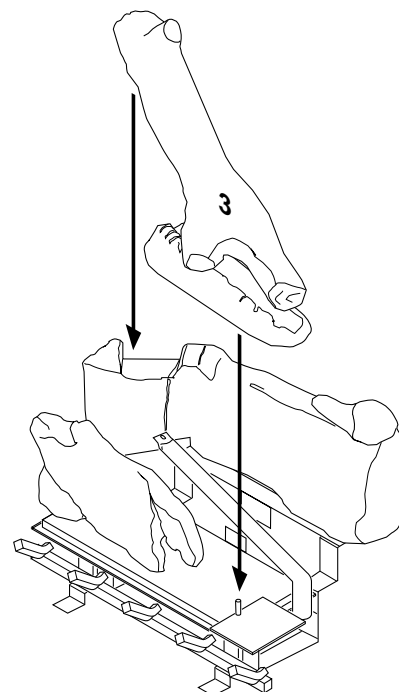

Figure 55 - Installing Log Assembly No. 3
3. Place log #3 (crossover assembly) onto the front right pin on front burner with the crossover log resting in notch on back log (see Figure 55).